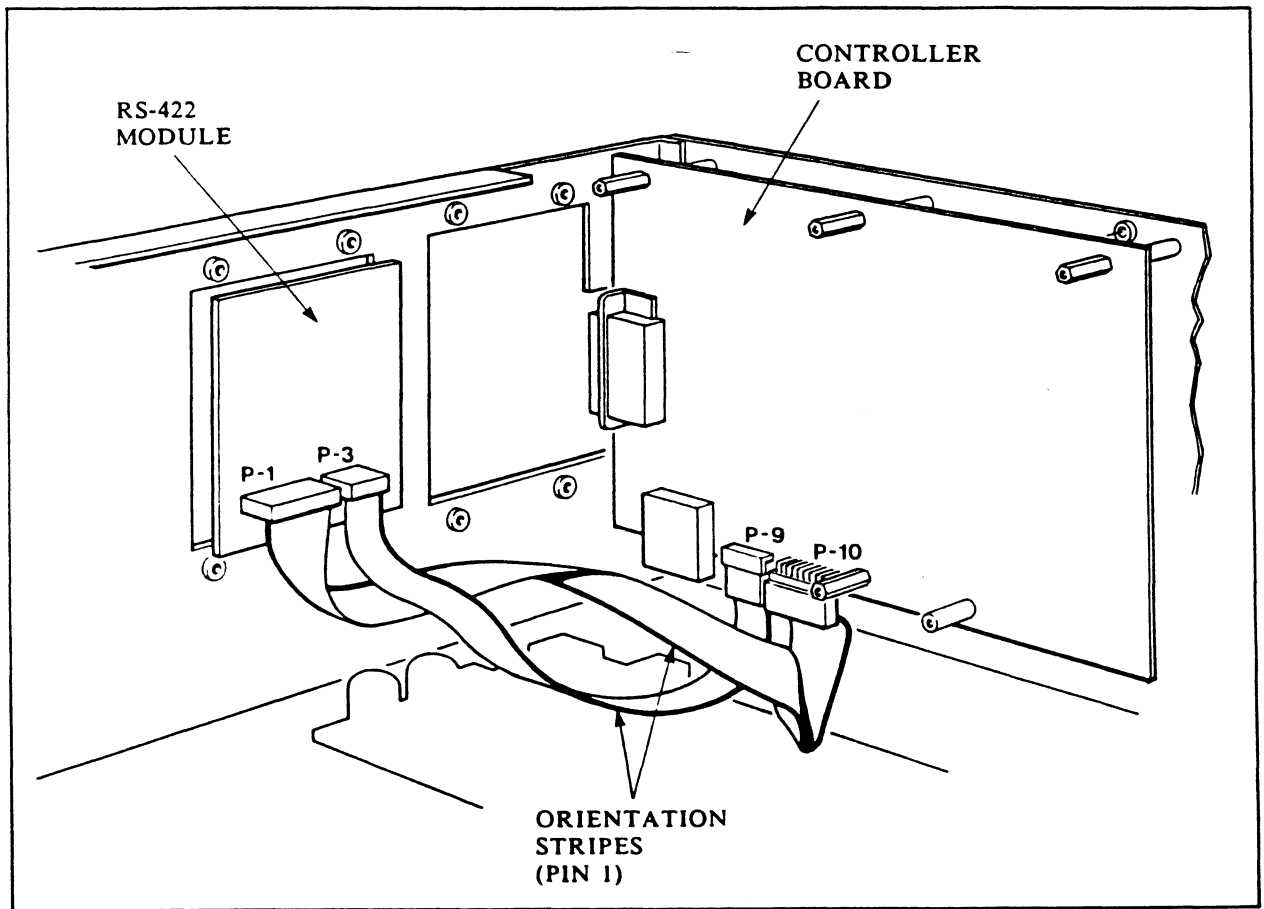

Figure 2-9 Communication Adapter Connectors
3. Attach power (6 pin straight) and data (20 pin header) connectors from Communication Adapter to Controller Card (see Figure 2-9).